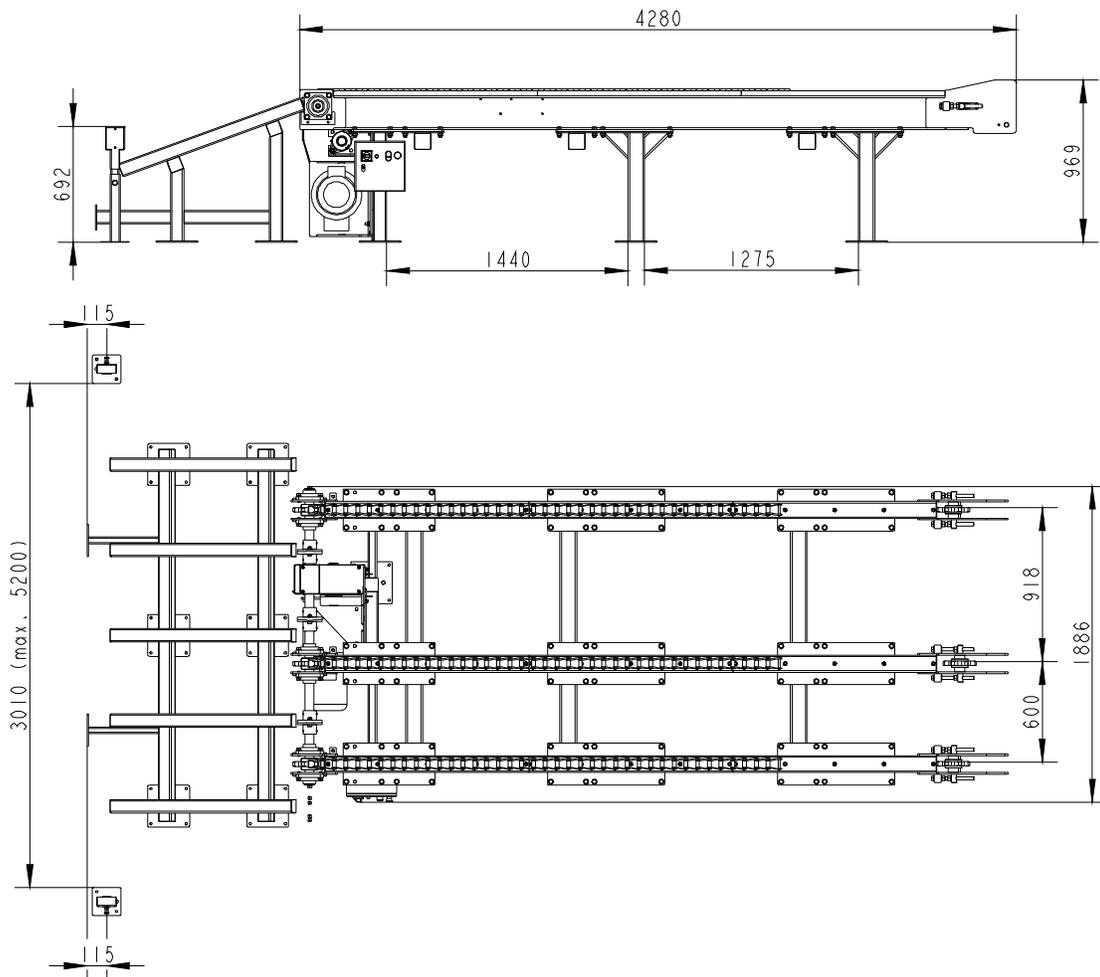

FIG. 4-1 LD1-12L
- Setup and connect the light curtain posts according to figure 4-1 and electric diagram.
See **Figure 4-1**. The overall dimensions of the LD1-12L Log Deck are shown below (all dimensions are in millimeters).